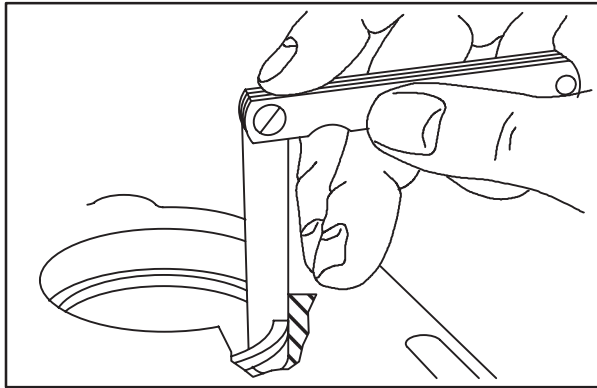

Fig. 4
2. Check ring end gap, Fig. 4. Clean carbon from end of rings and insert approximately 1" (25 mm) into cylinder.